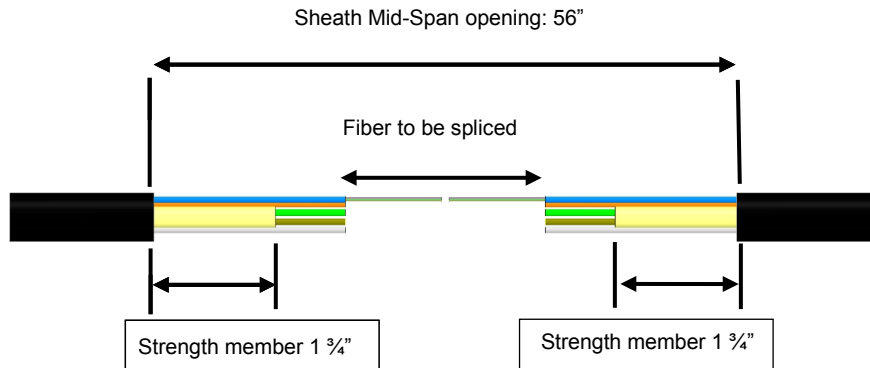

Figure 3
4.1.1 Preparation of Loose Buffer Tube Standard or Micro and Flat Drop with or without trace wire. Prepare mid-span opening: remove 56" of outer sheath. See Figure 3.
4.1.2 Cut strength member(s) 1 3/4" from end of sheath openings. See Figure 3. If Flat Drop has trace wire, cleanly cut away 4" of trace wire from end of sheath opening. See photos 38-39.